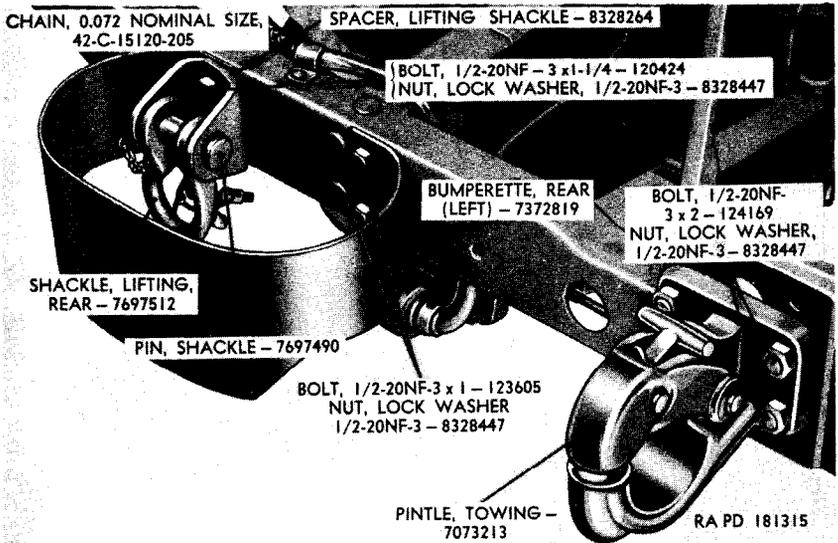

Figure 179. Towing pintle and rear lifting shackle installed.
b. Towing Pintle (fig. 179). The towing pintle is mounted on the rear crossmember and secured in place with four bolts and lockwasher nuts. A rotating type towing pintle, somewhat different from the one illustrated, is used on a few vehicles.
c. Lifting Shackles (figs. 179 and 180). Two lifting shackles are bolted to the front of the frame. Two lifting shackles are bolted to the rear of the frame. Two bumperettes are also bolted to the rear of the frame.
(fig. 179)
b. Rear Lifting Shackles (fig. 179). Proceed as directed in *a* above.